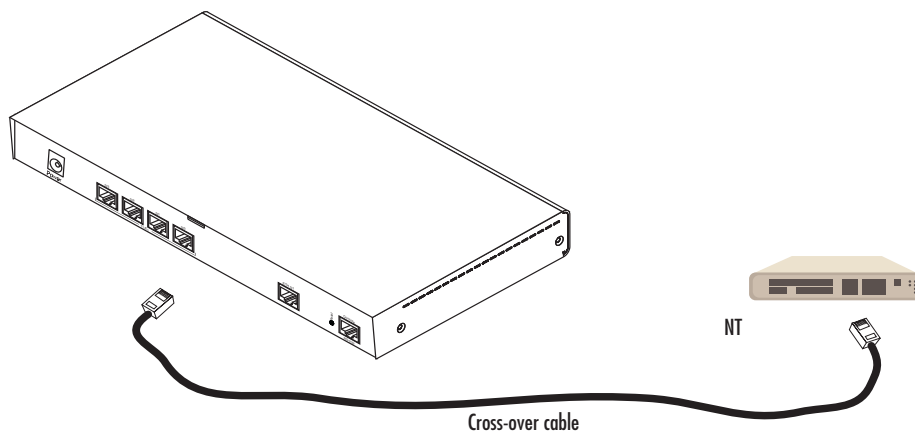

Figure 10. Connecting an E1 PRI port to an NT1
The E1 PRI is usually connected to a PBX or switch—local exchange (LE). Type and pin outs of these devices vary depending on the manufacturer. In most cases, a straight-through RJ-45 to RJ-45 can be used to connect the PRI with a PBX. A cross-over cable is required to connect to an NT device, as illustrated in figure 10 on page 47.